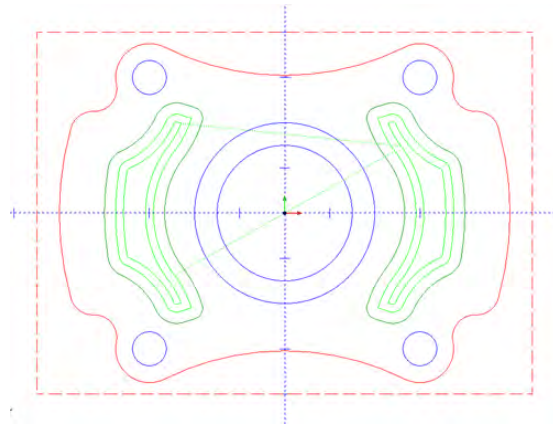

figure 26.1
26. Create a new **HS Pocket** operation by right clicking **Milling Stock** and selecting **Mill 2 Axis** then click on **HS Pocketing**. Right click **Geometry** on the new feature that was created and choose **Re/Select**. While holding the Shift key on the keyboard click on a side of the outside rectangle and the outside profile of the part (figure 26.1). Once these two loops are fully highlighted right click in the work space and click **OK**.